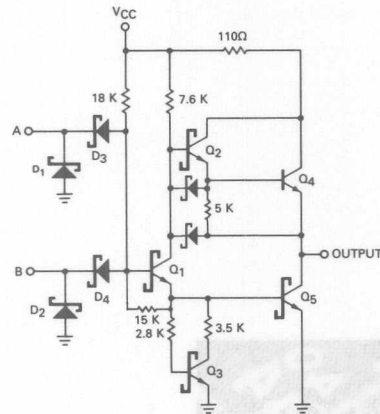
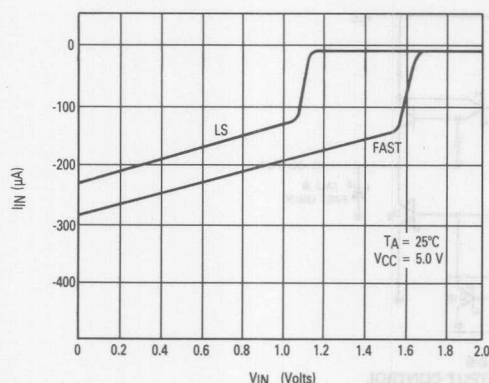
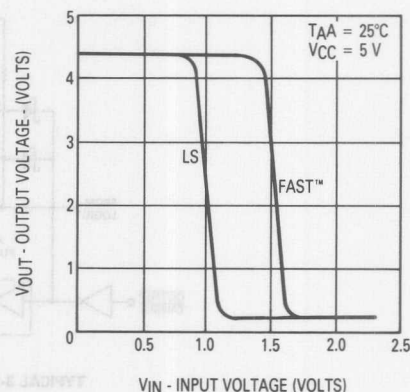

FIGURE 2-1a
**FIGURE 2-2**
**FIGURE 2-3**
Circuit features of LS and FAST are best understood by examining the TTL 2-input NAND gate of each family (Figures 2-1a, b). The input/output circuits of other functions are almost identical.
**INPUT CONFIGURATION.** Motorola LSTTL circuits do not use the multi-emitter input structure that originally gave TTL its name. Most LS elements use a DTL type input circuit with Schottky diodes to perform the AND function, as exemplified by D3 and D4 in Figure 2-1a. Compared to the classical multi-emitter structure, this circuit is faster and increases the input breakdown voltage. Inputs of this type are tested for leakage with an applied input voltage of 7.0 V and the input breakdown voltage is typically 15 V or more.
Another input arrangement often used in LS MSI has three diodes connected as shown in Figure 2-2. This configuration gives a slightly higher input threshold than that of Figure 2-1a. A third input configuration that is sometimes used in LS TTL employs a vertical PNP transistor as shown in Figure 2-3. This arrangement also gives a higher input threshold and has the additional advantage of reducing the amount of current that the signal source must sink. Both the diode cluster arrangement and the PNP input configuration have breakdown voltage ratings greater than 7.0 V.
All inputs are provided with clamping diodes, exemplified by D1 and D2 in Figure 2-1a, b. These diodes conduct when an input signal goes negative, which limits undershoot and helps to control ringing on long signal lines following a HIGH-to-LOW transition. These diodes are intended only for the suppression of transient currents and should not be used as steady-state clamps in interface applications. A clamp current exceeding 2 mA and with a duration greater than 500 ns can activate a parasitic lateral NPN transistor, which in turn can steal current from internal nodes of an LS circuit and thus cause logic errors.
Referring to Figures 2-1a, b, the base of the pull-down output transistor Q5 is returned to ground through Q3 and a pair of resistors instead of through a simple resistor. This arrangement is called a squaring network since it squares up the transfer characteristics (Figure 2-5) by preventing conduction in the phase splitter Q1 until the input voltage rises high enough to allow Q1 to supply base current to Q5. The squaring network also improves the propagation delay by providing a low resistance path to discharge capacitance at the base of Q5 during turn-off.